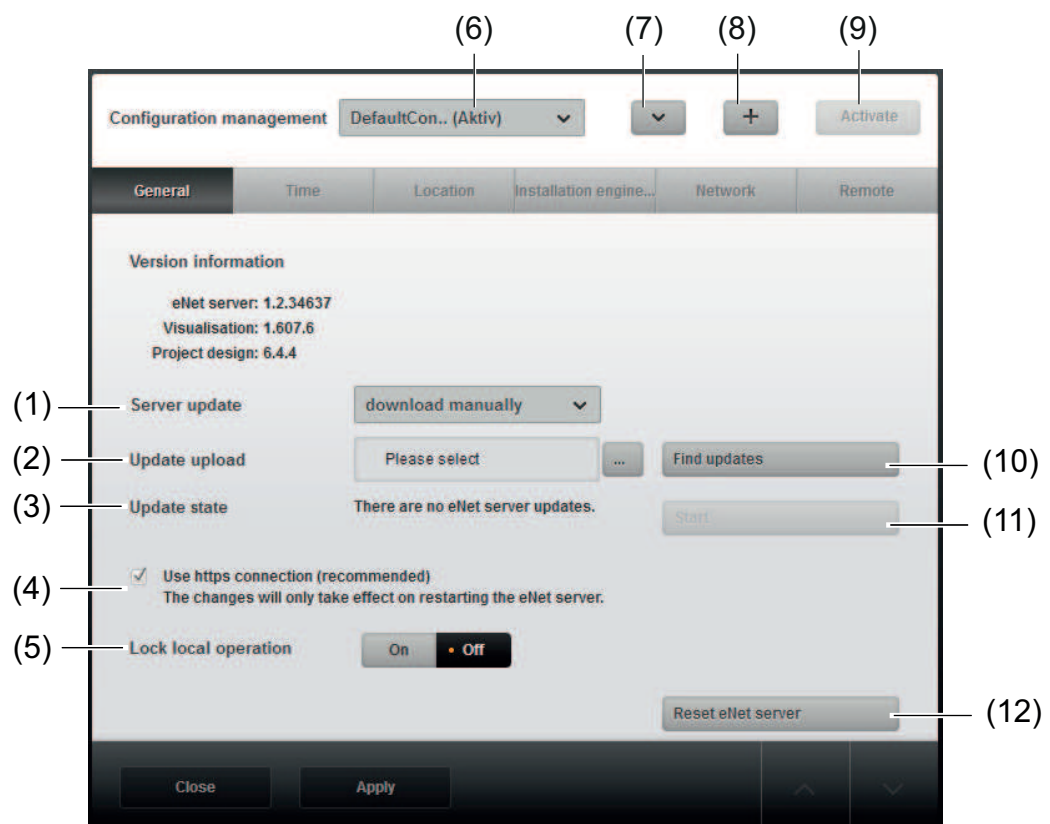

Figure 19: Configuration management
- Select the  button to create a new configuration (Figure 19).
- Select the appropriate configuration from the drop-down list (Figure 19).